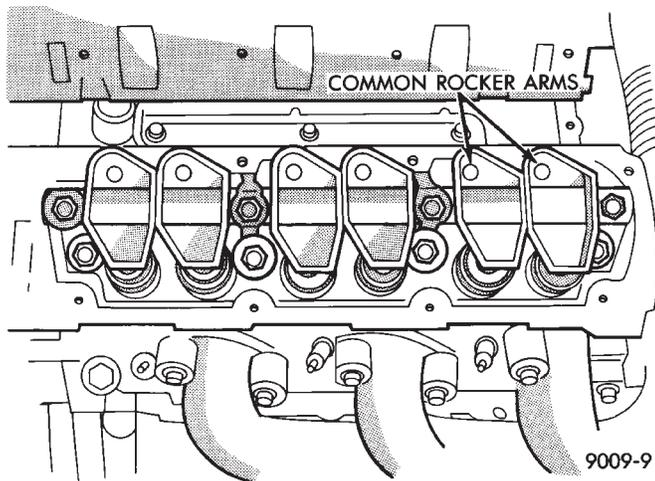

Fig. 5 Rocker Arm Location Left Blank
- (1) Remove upper intake manifold assembly. Refer to Intake and Exhaust Manifolds, Group 11.
- (2) Disconnect spark plug wires by pulling on the boot straight out in line with plug.
- (3) Disconnect closed ventilation system and evaporation control system from cylinder head cover.
- (4) Remove cylinder head cover and gasket.
- (5) Remove four rocker shaft bolts and retainers.
- (6) Remove rocker arms and shaft assembly.
- (7) If rocker arm assemblies are disassembled for cleaning or replacement. Assemble rocker arms in their original position. Refer to (Fig. 5) for rocker arm for positioning on the shaft.
- (1) Install rocker arm and shaft assemblies with the stamped steel retainers in the four positions, tighten to 28 N·m (250 in. lbs.) (Fig. 5).